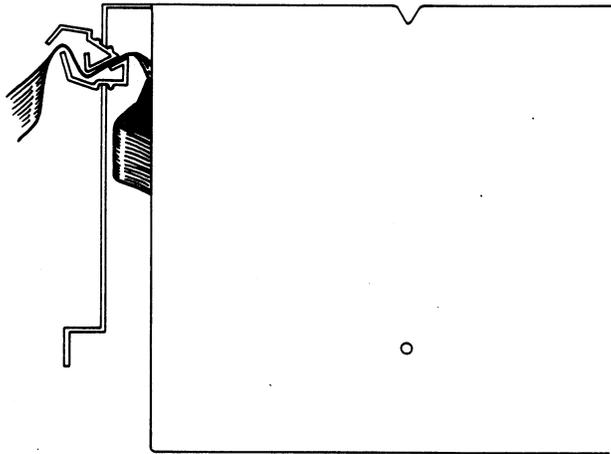

FIGURE 1
2. Remove the flat cable from the back of the drive by pressing the strain relief guard (see Figure 1) out of the slot and removing the cable.